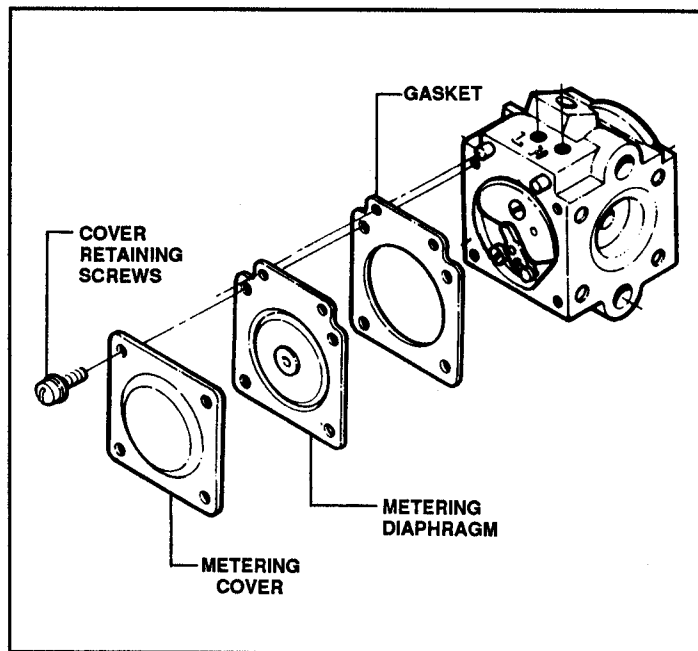

FIGURE 24
1. Installed on all Trimmers that accept Brush/ Grass blades, the Walbro governed carburetor governs engine speed to approximately 6500 R.P.M. The "Hunting" characteristics or raising and lowering of engine R.P.M. is normal with this carburetor. No other type of carburetor should be substituted. Inspect the metering side for dry rot or torn gaskets/diaphragms. See Figure 24.